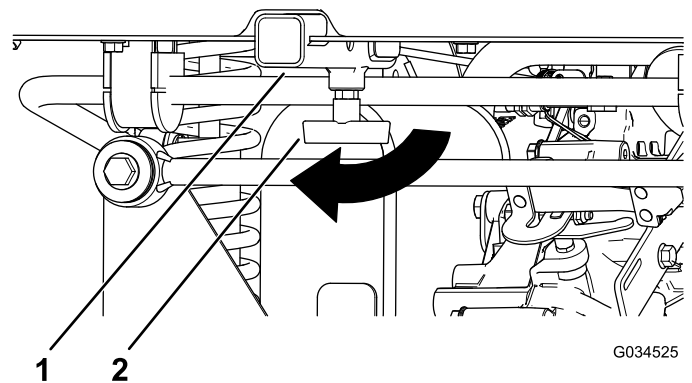

Figure 6
5. Loosen the "T" handle on the receiver tube (Figure 6).